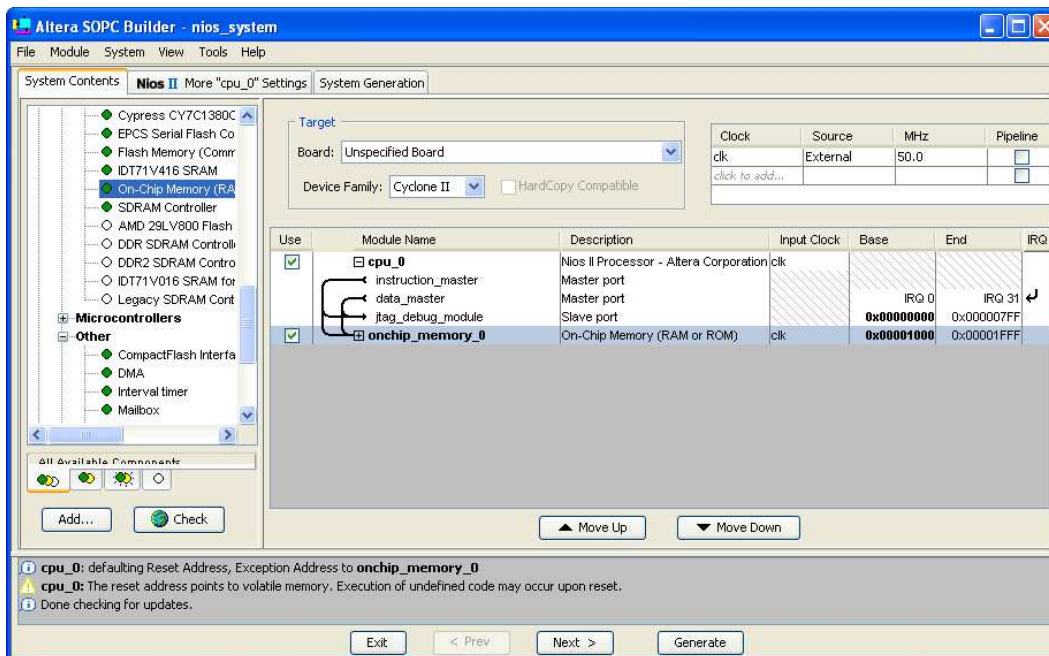

Figure 9. The on-chip memory is included.
- Click **FINISH**, which returns to the System Contents tab as indicated in Figure 9